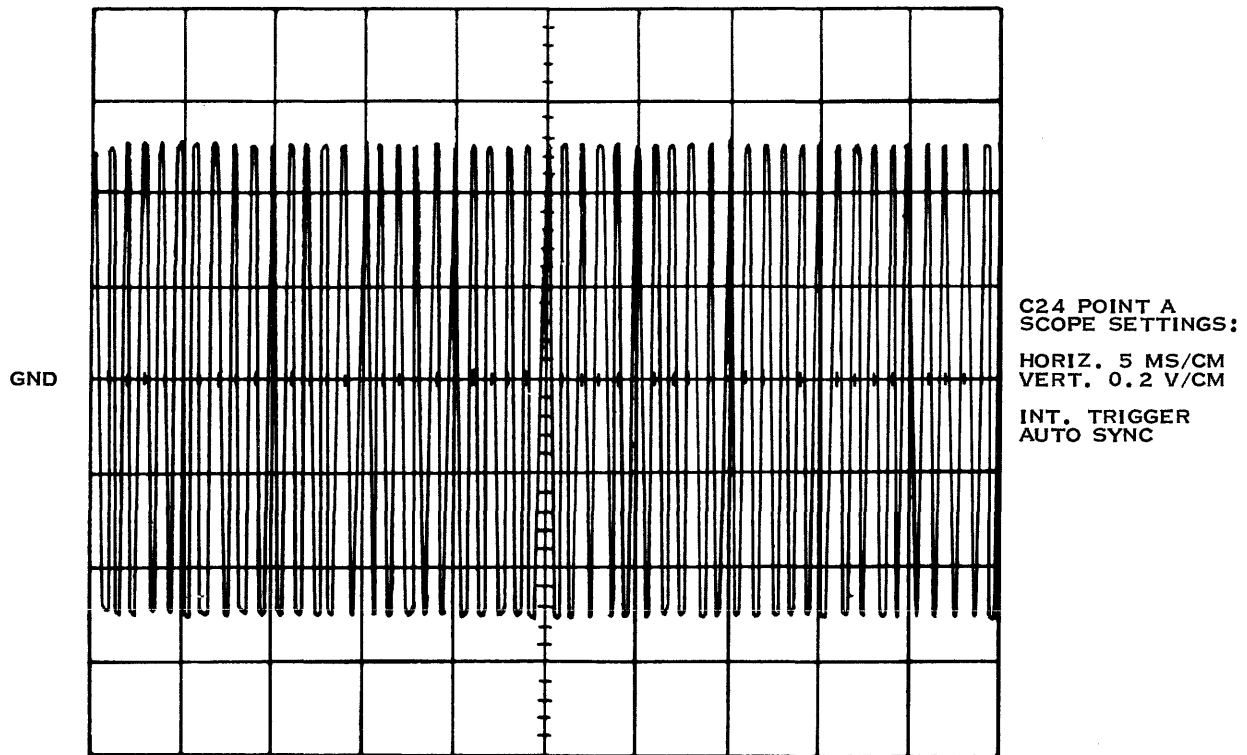

Figure 3-17. Position Transducer Waveform
7. If amplitude of waveform is $1.0 \pm .05$ volts peak to peak (see figure 3-17), do not make any adjustment and proceed to step 9, if not, proceed to step 8.
14. Amplitude of waveform must be $5(+.4, -.2)$ volts peak to peak. If not, repeat steps 4 through 10 again. If adjustment cannot be performed, replace AGC preamp. Waveform will be similar to figure 3-17 except for difference in amplitude.